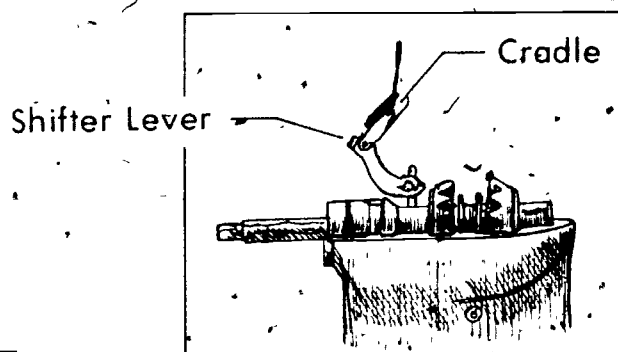

FIGURE 7
13. Swing shifter lever and cradle out of way (Figure 7)